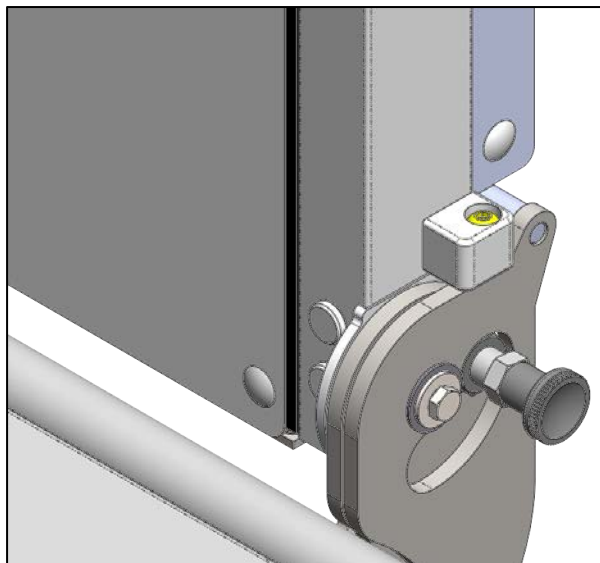

Fig.15
- Locate the angle adjustment screws on each side of the back frame (highlighted in Fig.15).